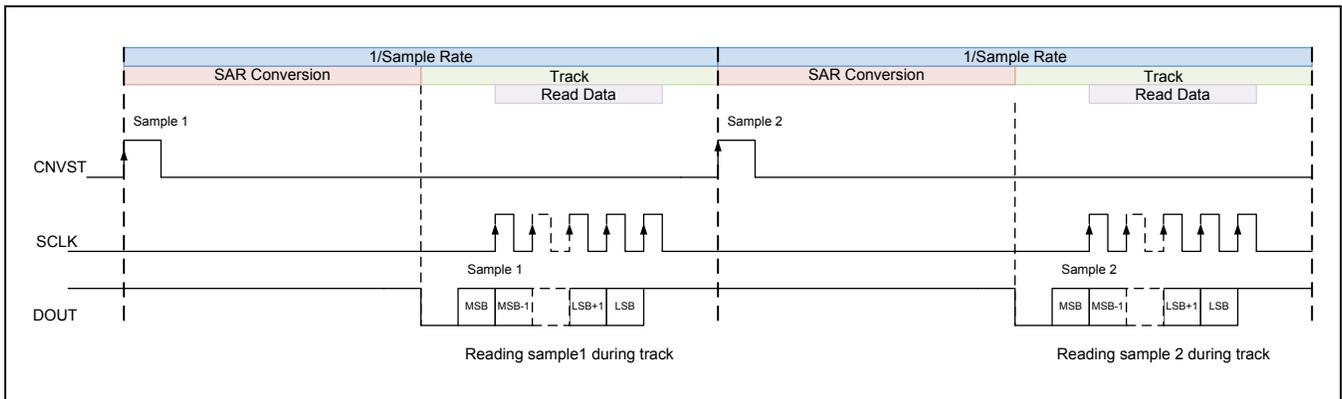
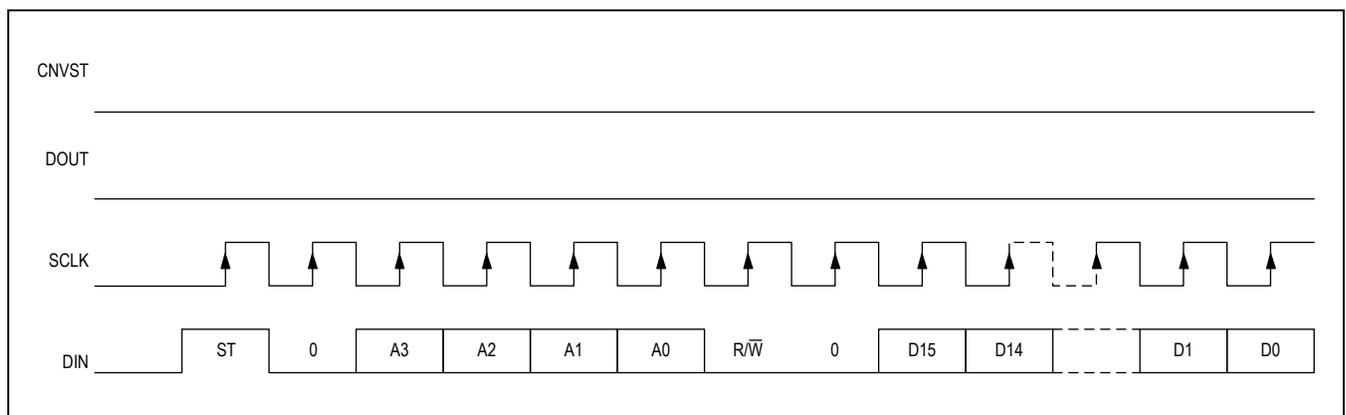

Figure 5. Read During Track Phase
Figure 11. Mode Register Write
- Reading during track phase (Figure 5)
When reading during track phase mode, the data is read only while the ADC is in track mode. Figure 5 shows the SPI signal for this reading mode.
All SPI operations start with a command word. The structure of the command word is shown below. If there is no start bit, i.e. DIN is low, the part will output the conversion result and then go idle (see Figures 5, 6, and 7). The 16-bit mode register is the only register that can be written to. Figure 11 shows the waveform for a mode register write operation.
*Conversion result can also be read as shown in Figures 5, 6, and 7.